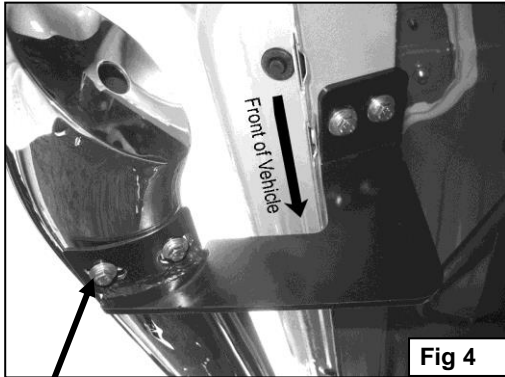

Fig 4
3. Align the holes on the bottom of the Side Bar with the holes on the Mounting Brackets. Attach the Side Bar to the Mounting Brackets with the included (6) 8-1.25mm x 30mm Hex Head Bolts, (6) 8mm Flat Washers, and (6) 8mm Lock Washers, **(Figure 4)**. Do not tighten at this time.